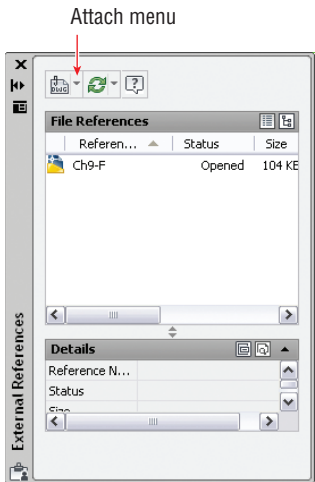

FIGURE 9.26 Attaching a DWG file in the External References palette
- 3. Select the ribbon's View tab, and click the External References Palette button in the Palettes panel. Open the Attach menu, as shown in Figure 9.26.